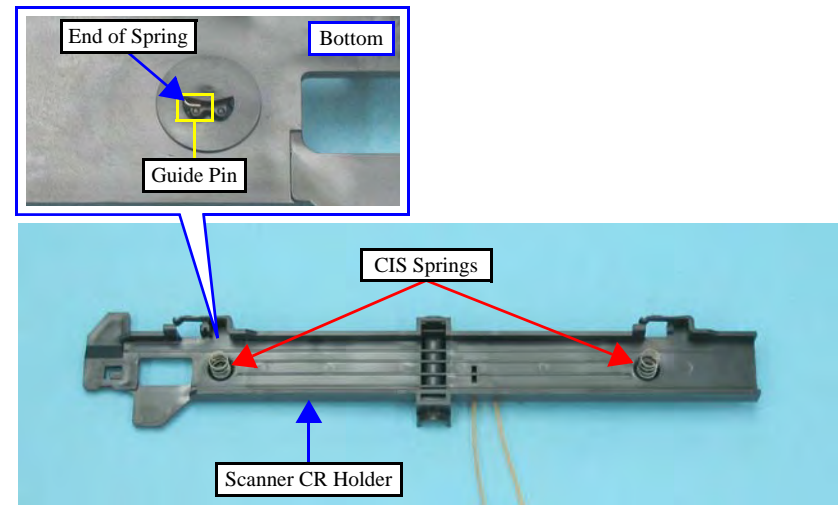

Figure 4-112. Removing the CIS Springs
- When installing the CIS Springs (x2), attach each end to their positioning tabs (x1 each) of the Scanner CR Holder as shown in Figure 4-112.